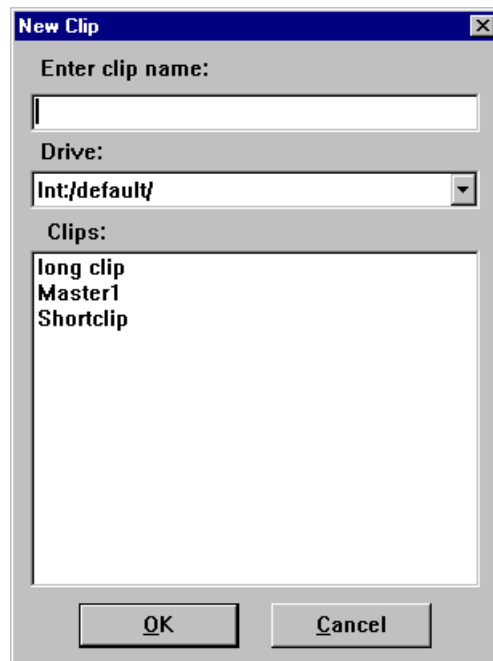

Figure 55. New Clip dialog box
2. Select **VideoClip | New Clip** to open the New Clip dialog box (Figure 55).